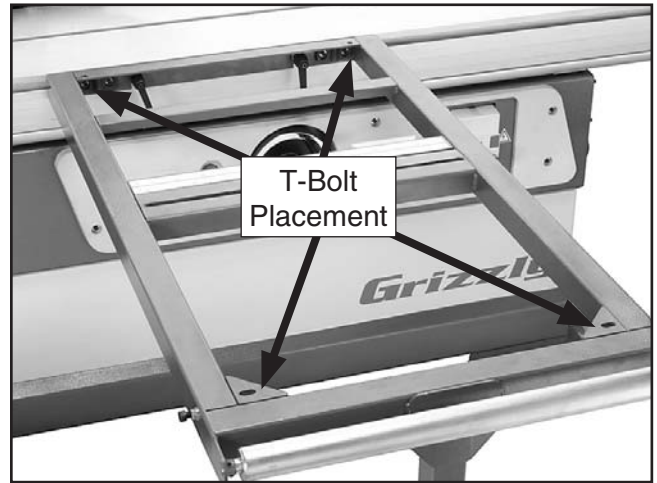

Figure 43. Crosscut fence placement.
1. Insert the T-bolts in the places indicated in **Figure 43**.